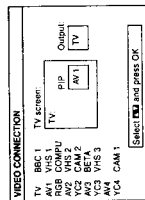

Fig. 43
- 1 Select «Video Connection» with  $\Delta$  + or  $\nabla$  - and press OK. The VIDEO CONNECTION menu appears. (See Fig. 43). You can see which source is selected for the TV and PIP input, and for the output. If you want to select the input and output on this menu, go on to the next step.